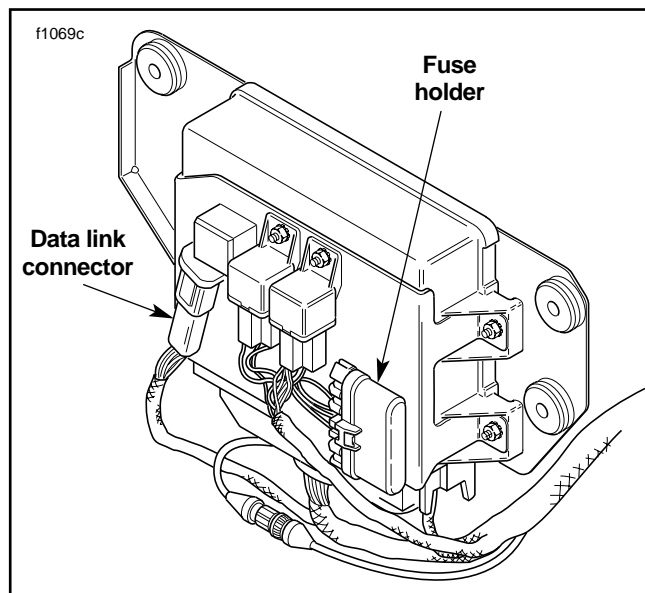

Figure 1. Data Link Connector
1. See Figure 1. Push data link connector up to disengage from T-stud.